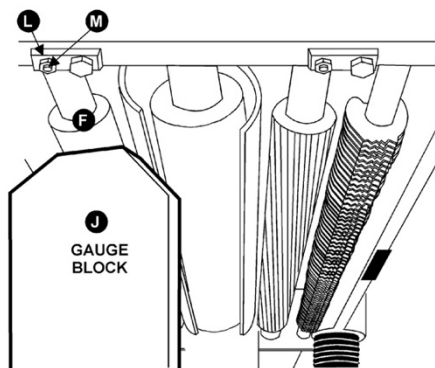

Figure 22
4. Remove the feeler gauge and move the gauge block (J, Figure 22) under one end of the outfeed roller (F, Figure 22). The bottom of the outfeed roller should just touch the top of the gauge block. If an adjustment to the outfeed roller is necessary, loosen the lock nut (L, Figure 22) and turn screw (M, Figure 22) until the outfeed roller just touches the gauge block. Then tighten lock nut (L, Figure 22).